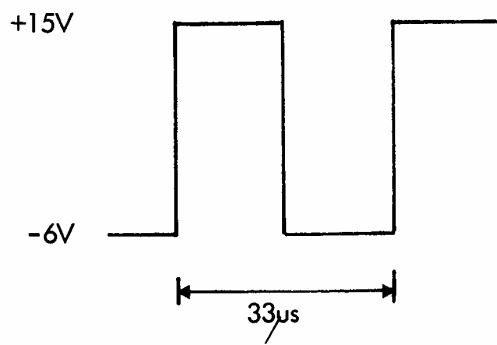

FIG. 5.2 INVERTER WAVEFORM
- 5.3.5 Connect the oscilloscope to the collector of T16 and check that the waveform is as shown in fig. 5.2.